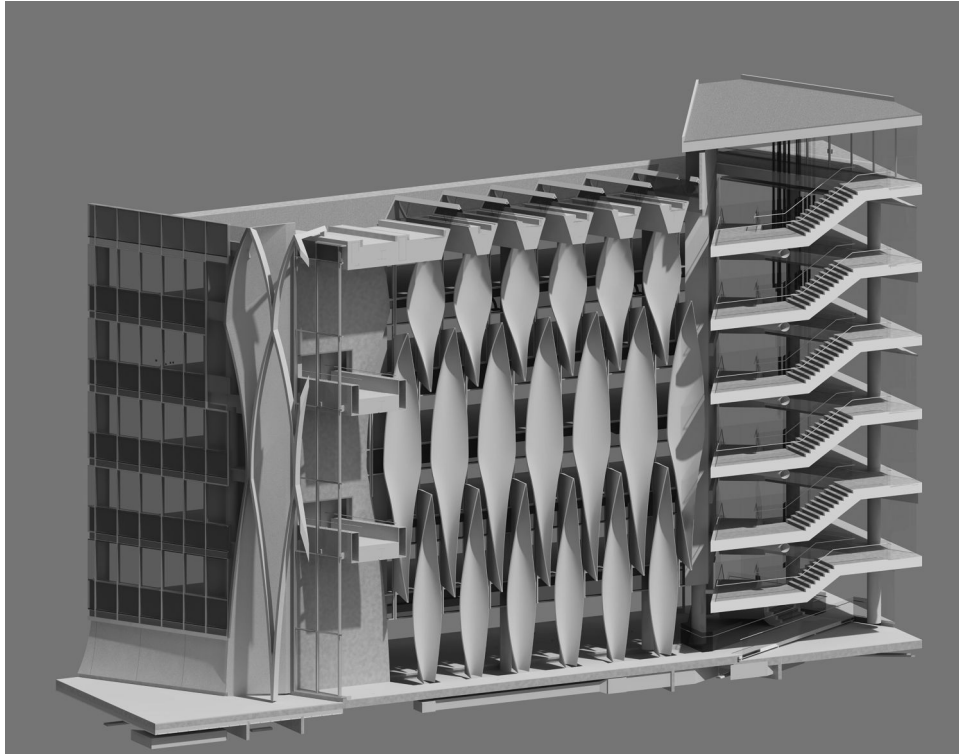

Figure 4.17 Interior Atrium section study rendering—DAR headquarters. © 2009–2010, Perkins + Will, all rights reserved
**RN:** When I joined the firm nine years ago, we were tending a little toward a boutique approach. We were not fully where we wanted to be with the technical side. This had already been recognized and there was already an initiative addressing this before I came on board. I would say now we always talk about full services. That doesn't mean we don't take projects through SD and then hand them off—we still do that. But we prefer full services—there are revenue reasons for that, but also for keeping your technical prowess, your technical chops as an architect. We don't really see a division between technical architecture and design. If anything, if there are barriers, we're trying to knock those barriers down. The things that are interesting to our designers are also interesting to our technical teams. We want to make sure that we don't silo these things. That would be antithetical to what we're trying to achieve. Being a boutique firm is not a survival strategy in these times. There will always be a few—but there aren't enough projects in the world to make being a boutique firm a viable business strategy. We have a much more holistic view of what it means to be a designer and an architect. (See Figure 4.17.)